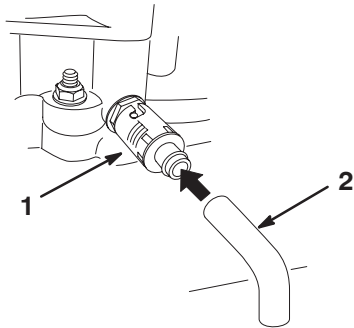

Figure 38
6. Place a pan below the drain hose. Rotate oil drain valve to allow oil to drain (Fig. 38).
8. Remove the drain hose (Fig. 38).